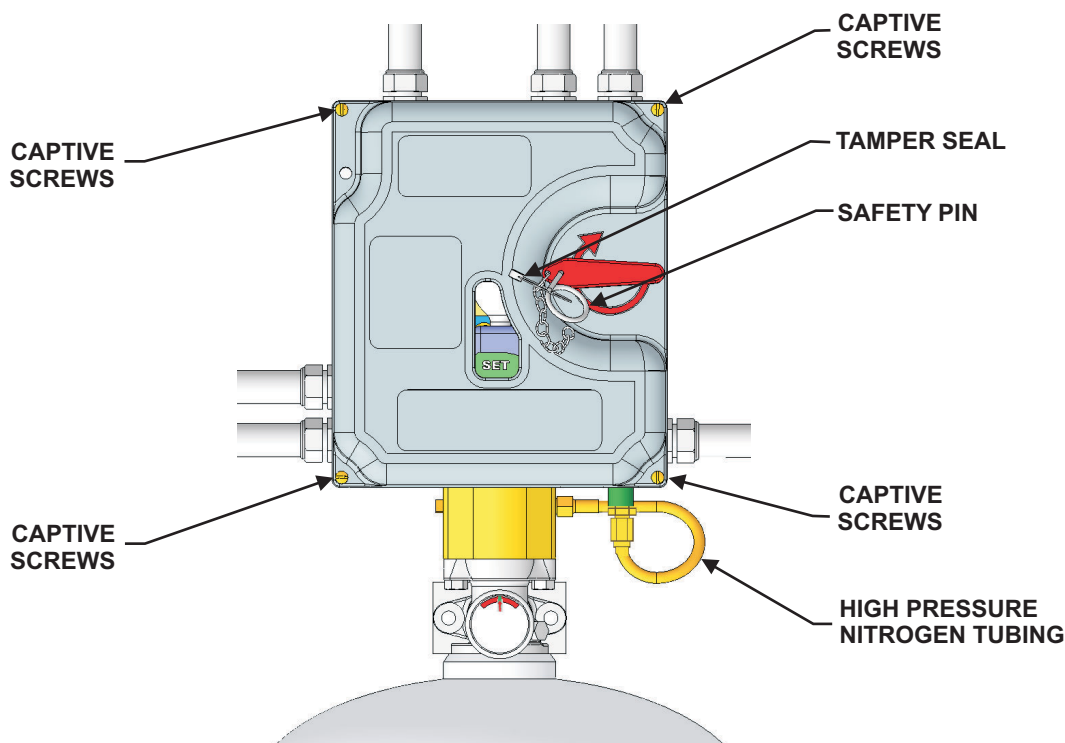

Figure 5-18. Cylinder Mounted XV Control System
19. Secure the High Pressure Nitrogen Tubing back onto the bottom of the XV Control System. Ensure that the fit is properly snug to prevent leakage. Refer to Figure 5-18.